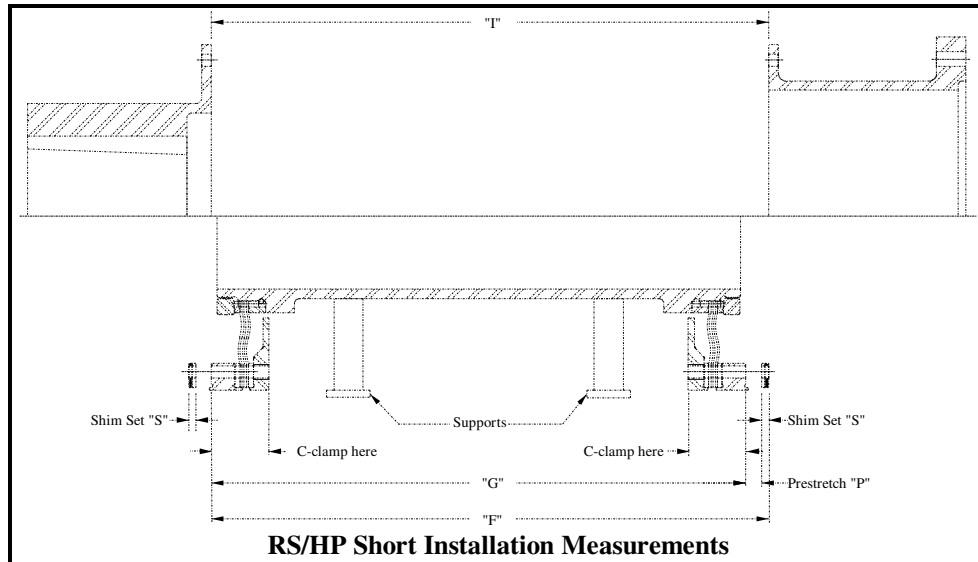

Figure 4-9
- 4.4.3.1 Measure and record , on the worksheet provided in Paragraph 4.4.5, the installation length "I" (distance between mounted flange faces) at four (4) places approximately 90° apart (see Figure 4-9).
- 4.4.3.2 Assemble the spacer rings, as shown on the Ameridrives Sales Drawing, onto both ends of the diaphragm pack sub-assembly taking care to re-align the matchmarks and end identification letters. Install a minimum of four (4) bolts approximately 90° apart through each spacer ring and tighten the bolts evenly in a criss- cross pattern to seat the pilots. On some size couplings the grip length of the bolts is too long to allow seating of the pilots in this manner. When this condition exists, a spacer plate, washers, shorter bolts, or C-clamps (not supplied) may be required to seat the pilots. Support as shown in Figure 4-9).
- 4.4.3.3 Measure and record, on the worksheet in Paragraph 4.4.5, the coupling free length "G" (distance between spacer ring outer flange faces) at four (4) places approximately 90° apart. It is recommended that C-clamps be used to compress the diaphragm pack at the location the measurements are being taken (see Figure 4-9).